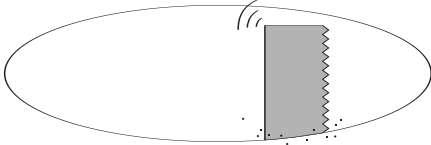

Figure 6: Cut ceiling hole
Step 1: Cut the Hole (Figure 6)